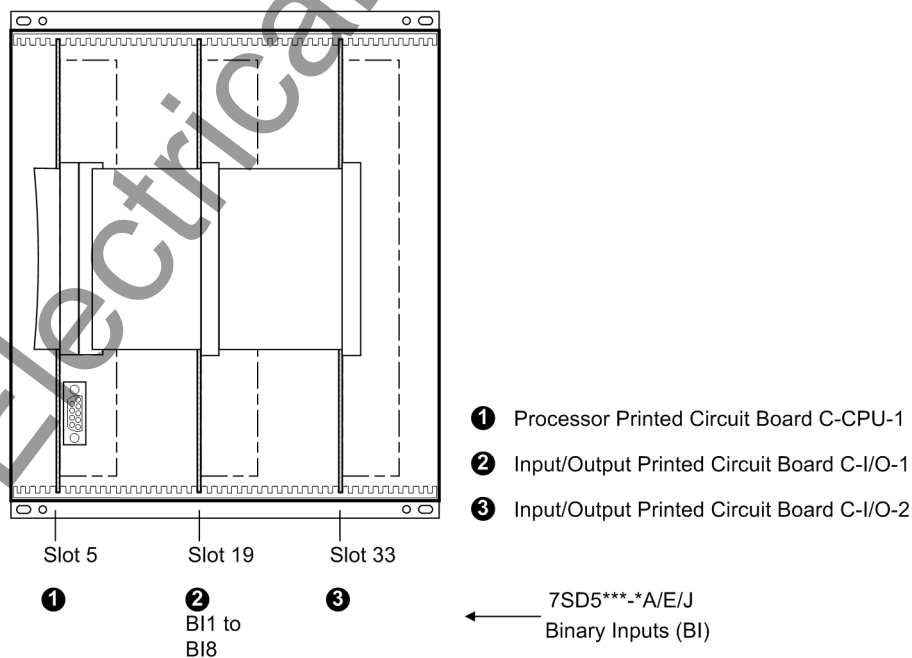
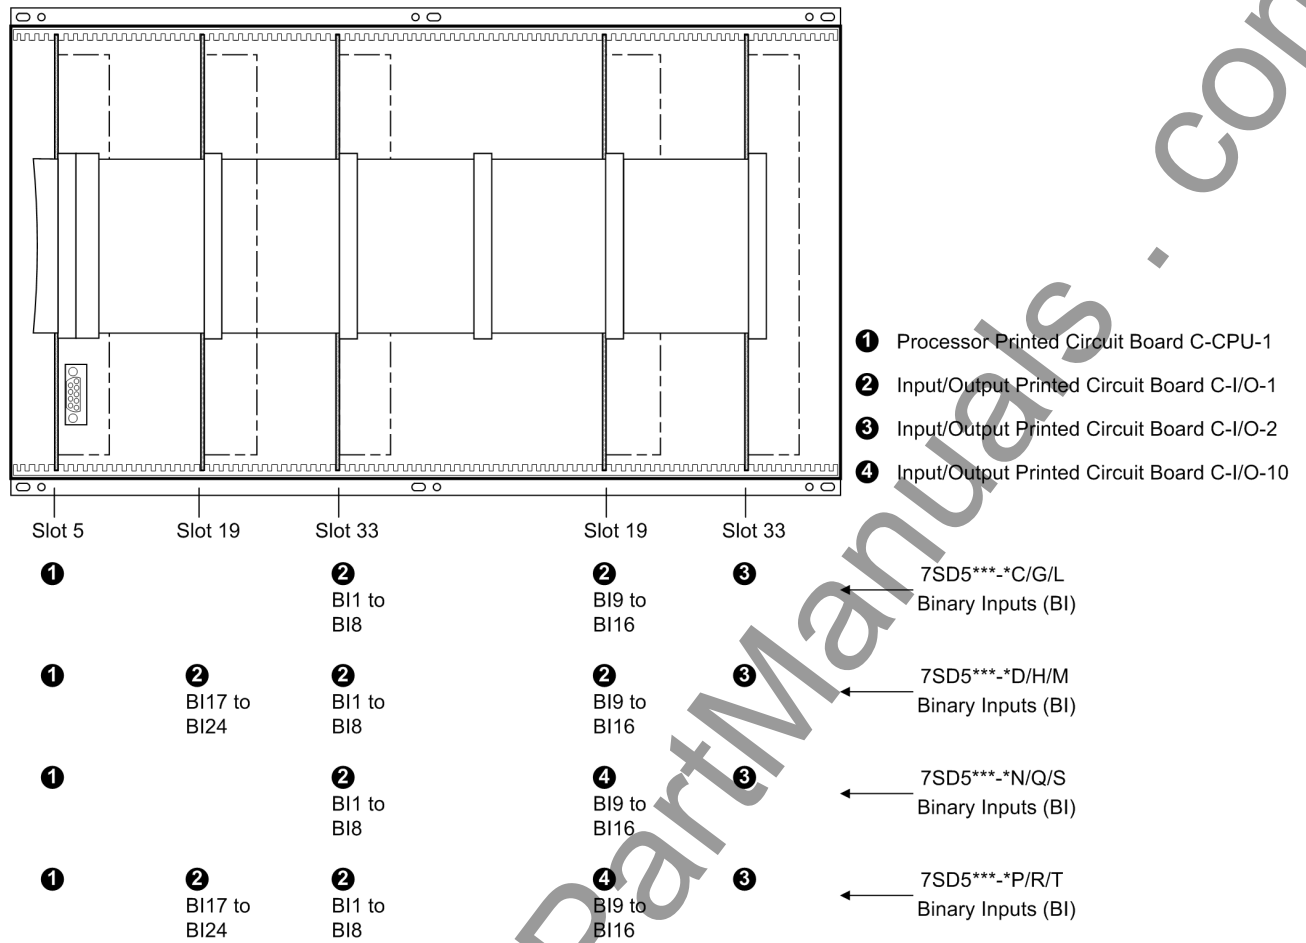

Figure 3-3 Front view with housing size $1\frac{1}{2}$ after removal of the front cover (simplified and scaled down)
Figure 3-4 Front view with housing size $1\frac{1}{1}$ after removal of the front cover (simplified and scaled down)
The allocation of the boards for housing size $1\frac{1}{2}$ is shown in Figure 3-3 and for housing size $1\frac{1}{1}$ in Figure 3-4.
- Disconnect the plug connector of the ribbon cable between processor board C-CPU-1 (No. 1 in Figure 3-3 or 3-4) and the I/O input/output modules (depending on order variant No. 2 to No. 3 in Figure 3-3 or No. 2 to 4 in Figure 3-4).
- On the input/output board C-I/O-1 (No. 2 in Figure 3-3, slot 19) for housing size $1\frac{1}{2}$,
- On the input/output board C-I/O-1 (No. 2 in Figure 3-4, slot 33 left) for housing size $1\frac{1}{1}$,
- In versions 7SD5***-**D/H/M** (housing size $\frac{1}{1}$ with 32 binary outputs) this is valid for the binary outputs BO16 and BO24 (Figure 3-4, slot 19 left and right);
- In versions 7SD5***-**C/G/L** (housing size $\frac{1}{1}$ with 24 binary outputs) this is valid for the binary output BO16 (Figure 3-4, slot 19 right);
- In versions 7SD5***-**P/R/T** (housing size $\frac{1}{1}$ with 32 binary outputs and command acceleration) this is valid for the binary output BO24 (Figure 3-4, slot 19 left).